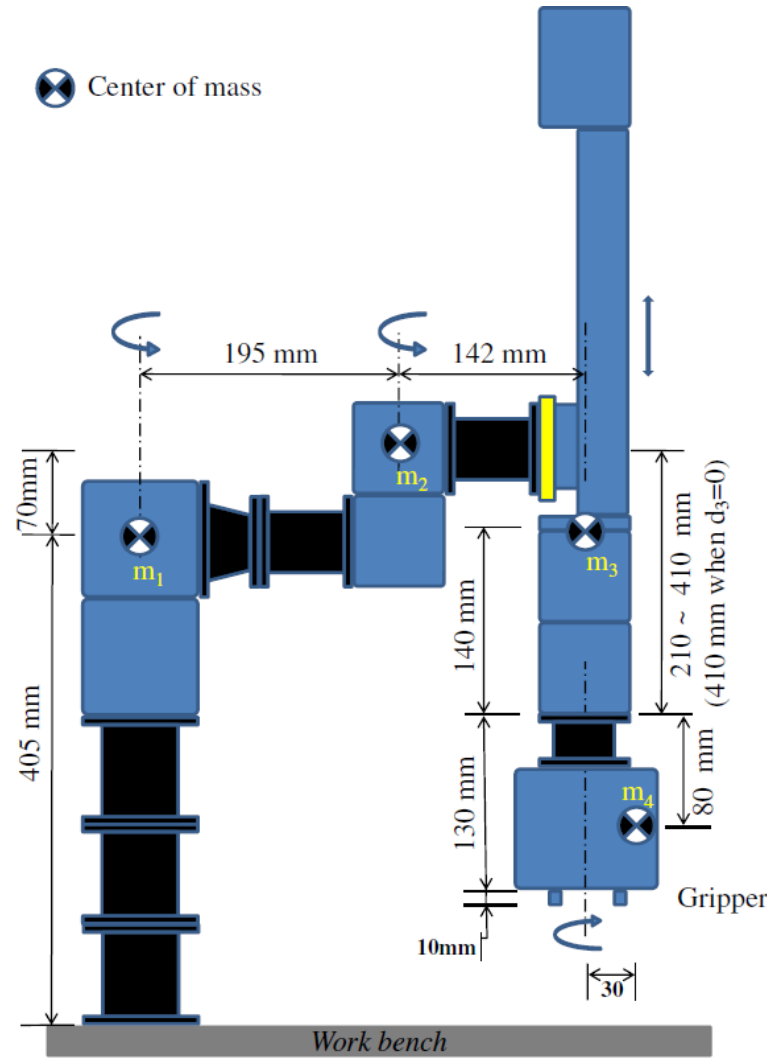

Figure 2: Schematic of SCARA type robot system assembled in 488 Lab.
2. The **kinematic parameters** are shown in Figure 2.
- ii. $m_1 = 1.7\text{kg}$, $m_2 = 1.0\text{kg}$, $m_3 = 1.7\text{kg}$, and $m_4 = 1.0\text{kg}$. For all four links, assume that the mass is all concentrated into a point mass, and the respective locations of centers of mass are shown in Figure 2.